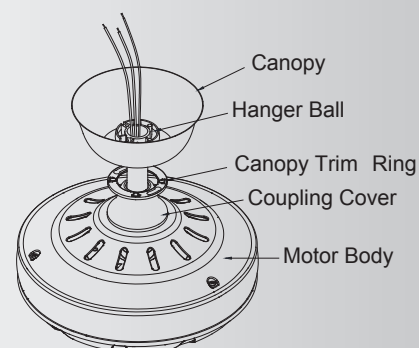

Fig. 8
Step 4. Slip the coupling cover, canopy trim ring and canopy onto the downrod. Carefully reinstall the hanger ball onto the downrod. Make sure the cross pin is in the correct position and the set screws are tight and the wires are not twisted. (Fig. 8)